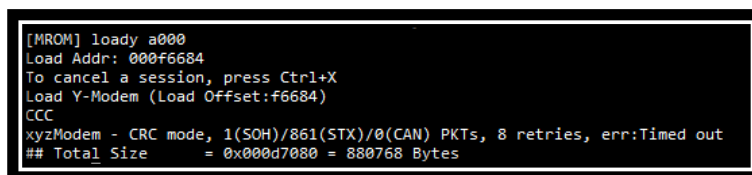

Figure 15: Main Image Prompt on Command Window
1. At the [MROM] prompt, type `loady a000`. See Figure 15.